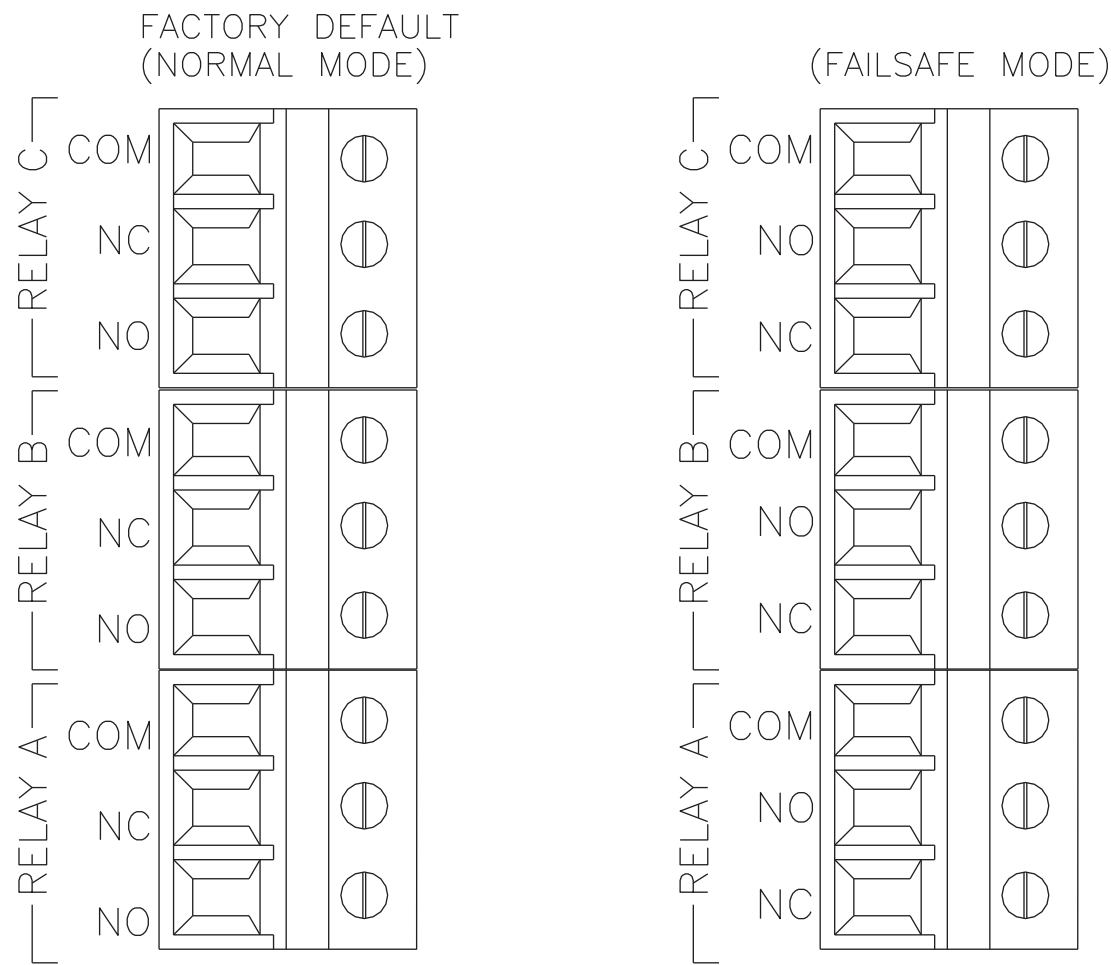

Figure 13: Relay contacts
Three SPDT relays are provided on the power supply board. None of the relay contacts are powered. The user must supply the proper power to the contacts. For applications that require the same switched operating voltage as the Q46 (115 or 230V), power may be jumped from the power input terminals at TB7. Relay wiring is connected at TB4, TB5 and TB6 as shown in Figure 13.
**NOTE:** The relay contact markings are shown in the *NORMAL* mode. Programming a relay for “Failsafe” operation reverses the NO and NC positions in Figure 13.